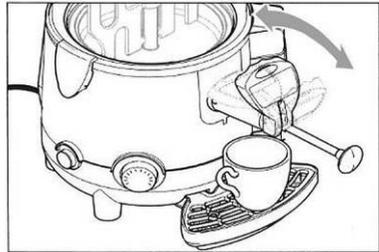

Fig. 11
1. Before cleaning, empty the tank with the appliance switched off by operating the drain tap lever (Fig. 11).